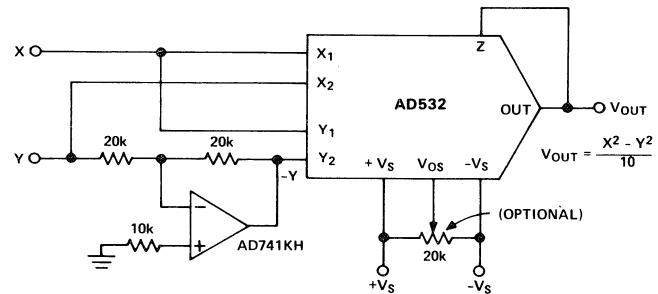

Figure 15. Difference of Squares Connection
The differential input capability of the AD532 allows for the algebraic solution of several interesting functions, such as the difference of squares, $X^2 - Y^2 / 10$. As shown in Figure 15, the AD532 is configured in the square mode, with a simple unity gain inverter connected between one of the signal inputs (Y) and one of the inverting input terminals ($-Y_{in}$) of the multiplier. The inverter should use precision (0.1%) resistors or be otherwise trimmed for unity gain for best accuracy.